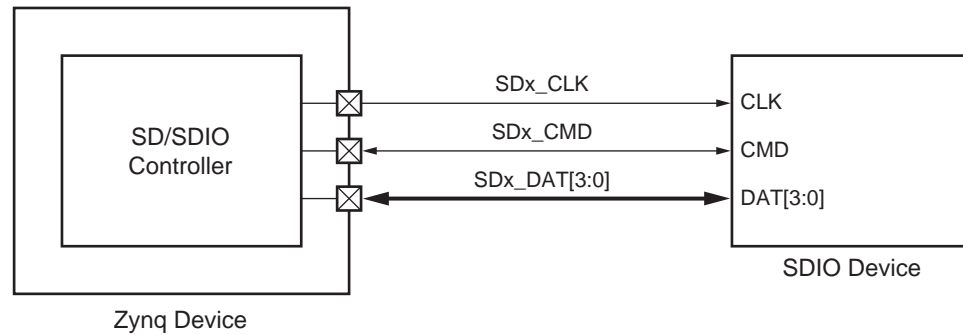

Figure 13-7: SDIO Controller Device Wiring Diagram
6. Check the Software Reset for DAT Line and Software Reset for CMD Line in the Software Reset register. If both Software Reset for DAT Line and Software Reset for CMD Line are 0, go to "END". If either the Software Reset for DAT Line or the Software Reset for CMD Line is 1, repeat Step (6).
Zynq-7000 devices provide two secure digital (SD) ports that support SD and SDIO devices (see Figure 13-7).